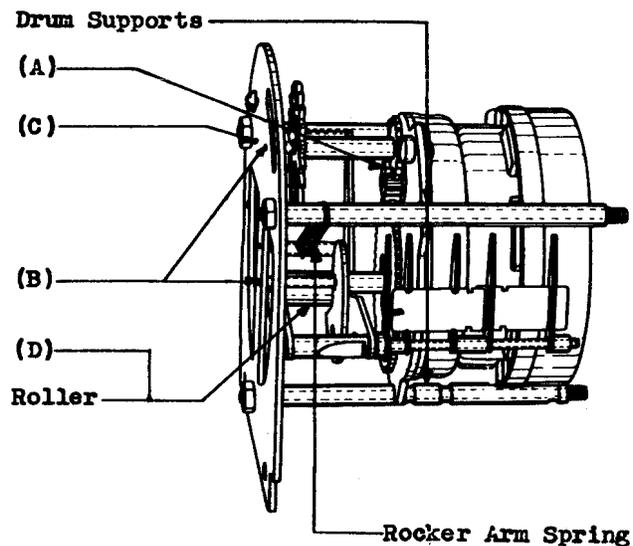

Fig. 3 - KS-8263 Clock Partially Disassembled
- (1) Fig. 3(A) — Motor Pinion
- (2) Fig. 3(B) — Gear Shaft Bearings
- (3) Fig. 3(C) — Rocker Arm Bearings
- (4) Fig. 3(D) — Roller Bearings